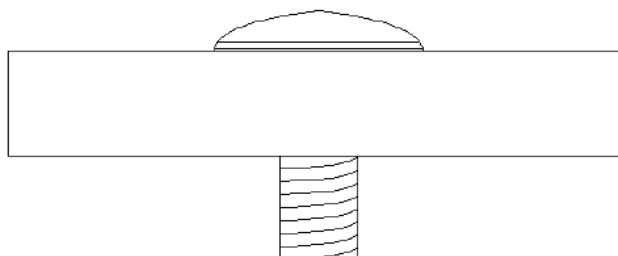

Figure 24 Antenna Placement for Low Traffic Areas
- For maximum performance, Neptune recommends that pit antennas be installed above the lid as illustrated in Figure 24.